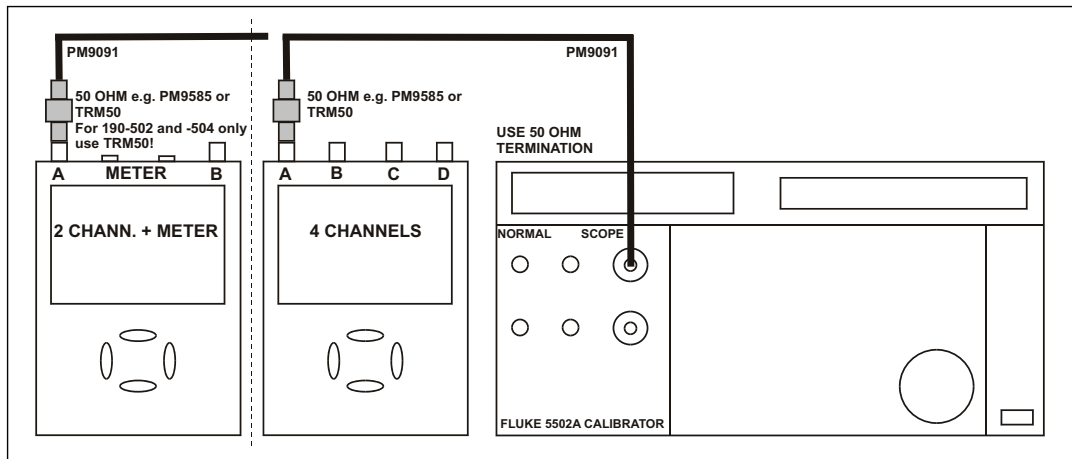

Figure 5-11. 5502A SCOPE Output to Test Tool Input A
4. Connect the Test Tool to the 5502A SCOPE output as shown in Figure 5-11. Use the 50 Ω termination.
1. Connect the Test Tool to the 5502A as shown in Figure 5-11.